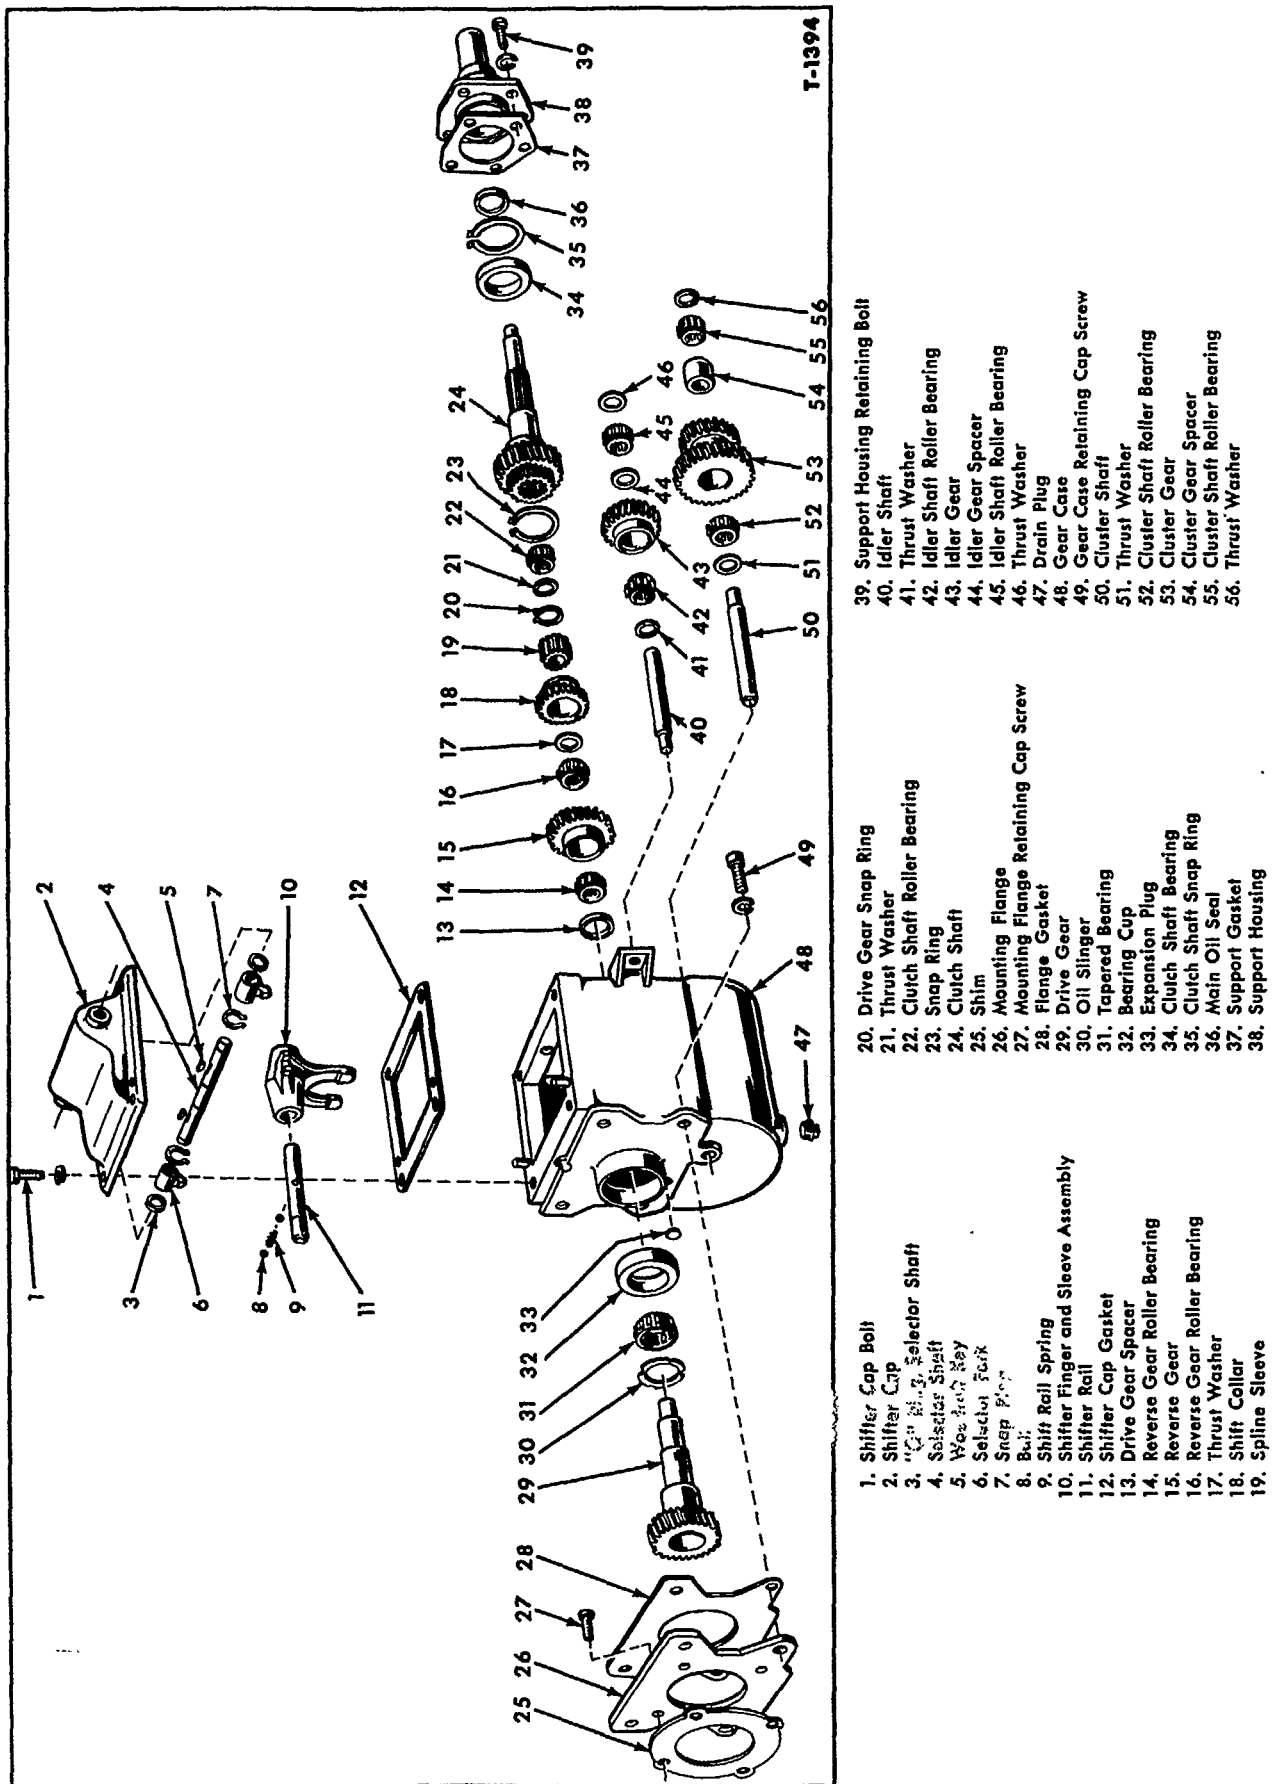

Figure 39—Forward and Reverse Transmission-Disassembled
3. Remove the five bolts (39), Figure 39, and lock washers that secure the support housing (38) and clutch shaft (24) to the front of the Sherman Transmission gear case. Separate these assemblies from the gear case and remove the gasket (37) from the support housing.
4. With a $\frac{5}{16}$ " socket and a $\frac{5}{16}$ " hex key approximately one inch long, remove the four hex head cap screws (49) and washers that retain the Sherman Transmission to the mounting flange (26). Remove the transmission and gasket (28) from the mounting flange (26).
5. Using the same socket and hex key as in step 4, remove the four hex head cap screws (27) that secure the mounting flange to the tractor transmission case. Remove the flange and shim(s) (25).
6. Remove the magnetic drain plug (47) from the bottom of the gear case and drain the oil from the transmission.
7. With Puller 956-2 and a slide hammer, remove the main oil seal (36), Figure 39, from the support housing (38).
12. Remove the oil slinger (30), Figure 39, from the drive gear.
13. With a brass rod and a hammer and driving from inside of the gear case, remove the expansion plug (33) located in the rear end of the case.
14. Working through the expansion plug hole with a brass rod and hammer, remove the idler shaft (40) from the gear case. Lift the idler gear (43) and thrust washers (41 and 46) out of the gear case. Remove the two roller bearings (42 and 45) and spacer (44) from the bore in the idler gear.
15. Working from the front of the gear case with brass rod and hammer, remove the cluster shaft (50) from the gear case. Lift the cluster gear (53) and the thrust washers (51 and 56) out of the case. Remove the two roller bearings (52 and 55) and spacer (54) from the bore in the cluster gear.
16. Place the gear case (48) on the bed of an arbor press, with the rear end of the case facing down. Position Step P ate 630-11 on the wide shoulder of the tapered bearing cup (32). Bring the ram of press down on step plate and remove the bearing race from the case.
1. Place the gear case (48), Figure 39, on the bed of an arbor press with rear end of the case facing up. Position the bearing cup (32) in the case with the wide shoulder of the cup facing down. Place Step Plate 630-13 on narrow shoulder of